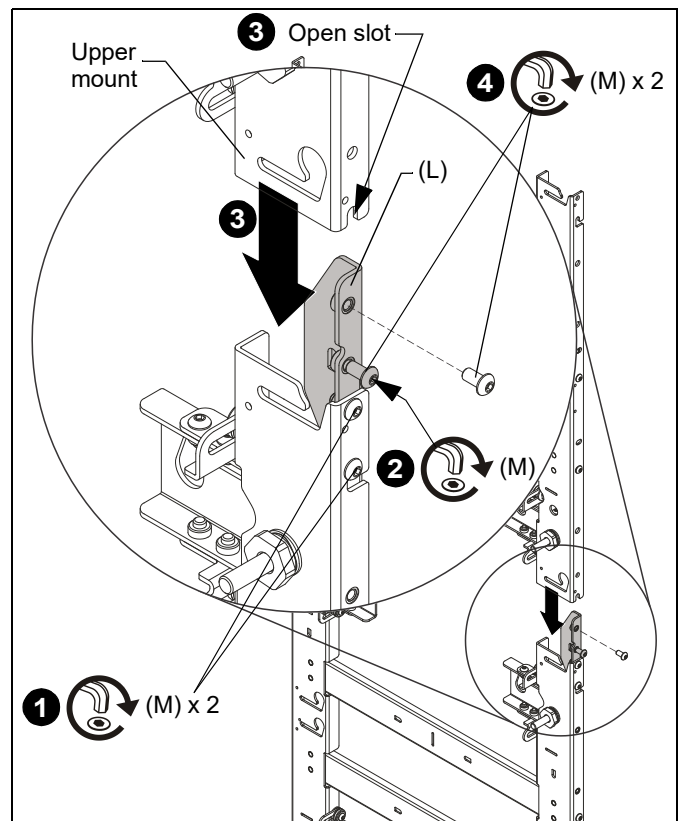

Figure 3
1. Slide the vertical connector (L) down from the top of the mount, and attach with two 1/4-20 x 1/2" button head screws (M) per vertical connector. (See Figure 3)
2. Loosely install one 1/4-20 x 1/2" button head screw (M) in the lower screw hole at the top of each vertical connector (L). (See Figure 3)
3. Hang the open slot of the upper mount onto the partially installed button head screw (M). (See Figure 3)
4. Tighten both upper button head screws (M). (See Figure 3)